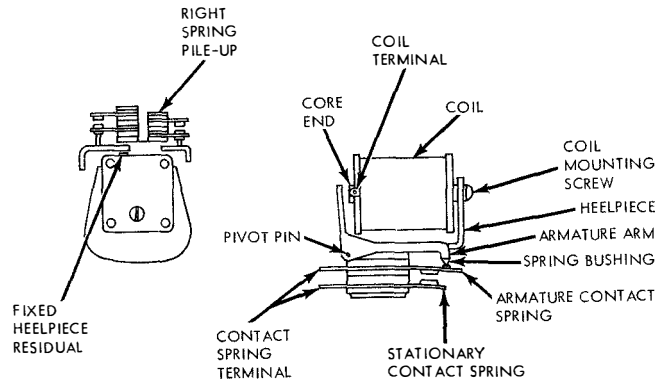

Figure 7-123. Single Coil Fast Acting Relay (Class S)
d. TESTING AND ADJUSTING THE CLASS S RELAY K-104. (See figure 7-123.)
(1) ALIGNMENT.
(d) When a double armature relay has only make spring combinations in the right and left spring pile-ups, the total tension when the relay is not operated in the right spring pile-up shall exceed that of the total tension in the left spring pile-up by a minimum of 15 grams (see figure 7-123).